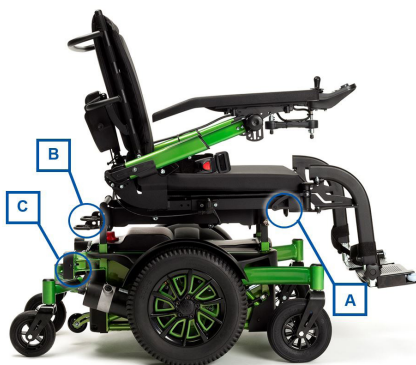

Figure 1
4. Fasten the wheelchair frame securely to the vehicle using the strap-tie-down system (see Figure 1).